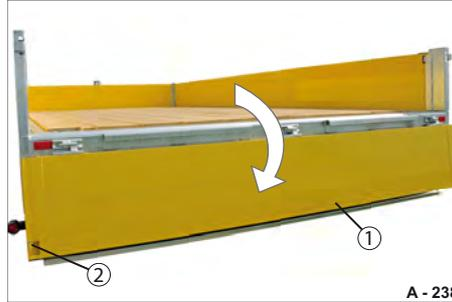

Fig. 124 Rear platform gate, folded down
- ▶ Unlock the platform gate fasteners (Fig. 124/2).
- ▶ Open the rear platform gate (Fig. 124/1) a little and close the platform gate fasteners.
- ▶ Fold down the rear platform gate (Fig. 124/1) with both hands in a controlled manner - do not drop. The platform gate fasteners cannot butt against the underrun guard/tail lights.